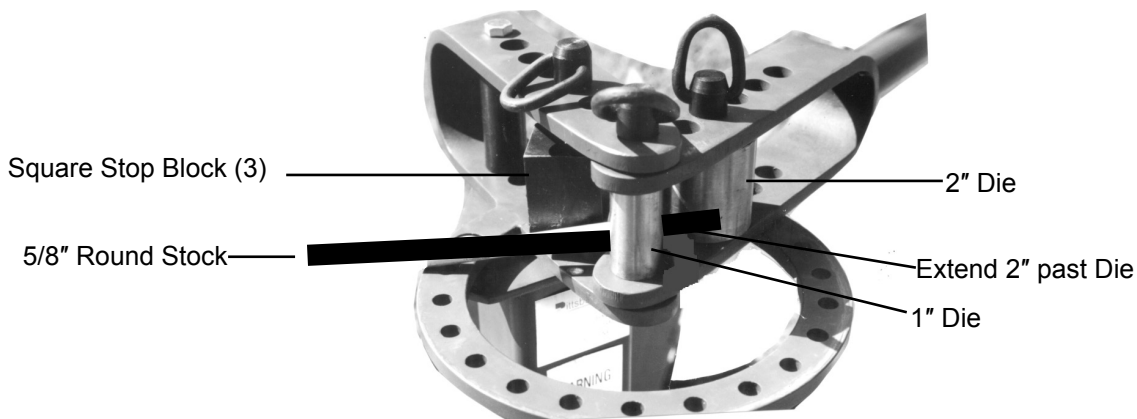

Figure 7
2. Set the appropriate Die into place on the Outer Handle/Die Receiver (9) between the upper and lower fork. Secure the Die in place by inserting the Short Hitch Pin (2) through the Outer Handle/Die Receiver (9) and the Square Stop Block. The Square Stop Block (3) is held in place against the stock as shown in Figure 7 on page 12.
3. Set your workpiece into position. With the Handle (9) in the starting position, set the Square Stop Block (3) as close to the Long Hitch Pin (1) at the center position, as possible.
2. With the Handle (part #8/9) in the normal position, place the 1" Die on the Center Pin. Place the 2" Die in the 2nd hole- as in Figure 7. Insert the round stock so that the end extends 2" down past the 1" Die - see Figure 7. Make the first bend at 90 degrees.
The following instructions are for a 1" Inner Diameter tube clamp using 4-1/2" long, 3/16" thick x 1" wide flat stock. See Figure 7 as a reference.